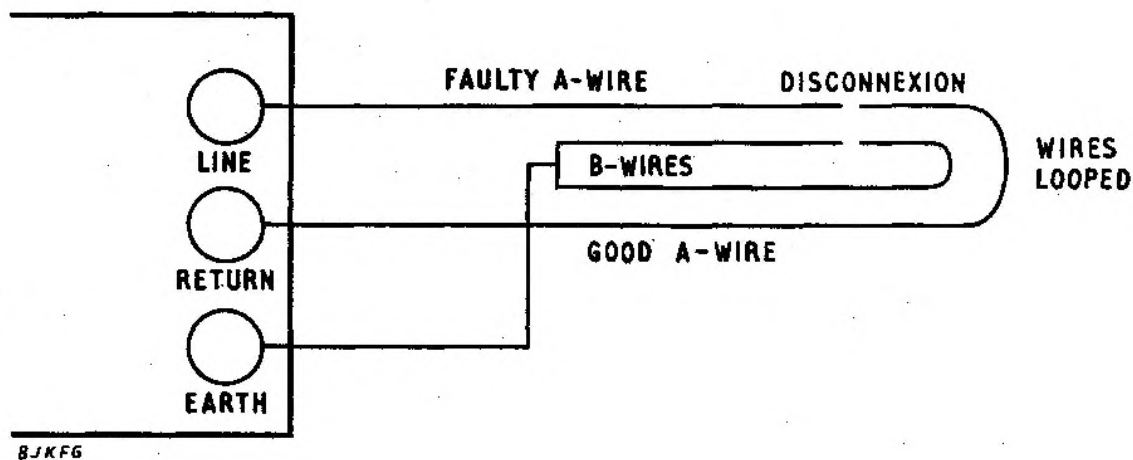

FIG 8 - DISCONNEXION ON ONE OR BOTH WIRES OF A PAIR (SPARE PAIR AVAILABLE)
10.1 If a good spare exists in the cable, loop it to the faulty pair at the far end (A-A wire and B-B wire) (see Fig 8). At the near end, connect the faulty A-wire to the LINE terminal, and the good A-wire to the RETURN terminal. Bunch the two B-wires and connect them to the EARTH terminal. Set the TEST FUNCTION switch to the DISCONNEXION position, and the RHEOSTAT VALUE switch to CALIBRATE. Switch on, and rotate the CALIBRATE (10 turns) knob to bring the pointer to zero on the RHEOSTAT BALANCE scale. Now set the RHEOSTAT VALUE switch to the MEASURE (DISCONNEXION) position, and adjust rheostat to bring the pointer again to zero.